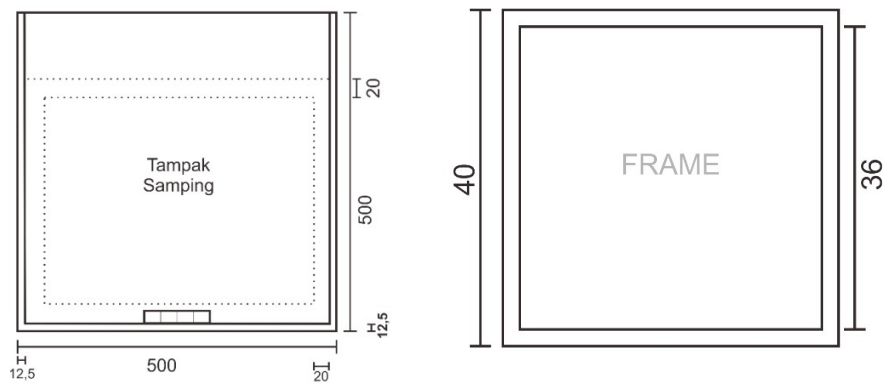

Figure 2 : Rectangular Window Dimensions (in mm)
3.2. There shall be two rectangular window frames, 20mm thickness, and one on each section of the tank 400mm from the ends of the tank. See Figure 2 for detailed dimensions.